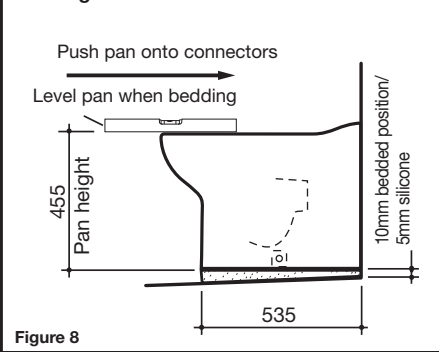

Figure 8
- 4- Prepare bedding sand cement mixture 3:1 to depth of 60mm, as detailed in **Fig. 8**. Note: Do not fill the foot of the pan with bedding mix or include lime or fast drying cement into the mix, these may cause cracking in the foot of the pan.
- 5- Position and push pan into the flexible connectors using the marked centre line on the wall as a guide and level pan into bedding mixture, so that the back of the foot of the pan/closet is approximately 10mm above the finished floor, as detailed in **Fig. 8**. It is recommended that wedges are used to support the foot of the pan during the positioning.
- 5- Run a bead of acetic silicone sealant/caulking at a height of approximately 8mm fully around the foot of the pan which contacts the floor. Use Wedges around the foot base (if required) so that the maximum height of silicone is not greater than 5mm on completion on bedding as detailed in **Fig. 8**.